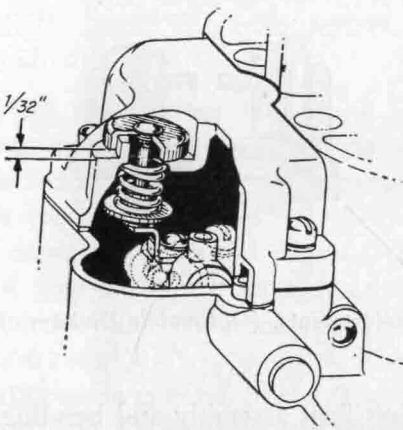

FIG. 10-36. Vapor-vent adjustment. (Oldsmobile Division of General Motors Corporation)
4. *Vapor-vent adjustment.* After pump and metering-rod adjustments are completed, and with throttle lever setscrew backed out so that throttle valves are seated in bores, note the distance between the lower edge of the vapor-vent valve and the dust cover (Fig. 10-36). If it is not $\frac{1}{32}$ inch, remove dust cover and bend the vapor-vent arm.